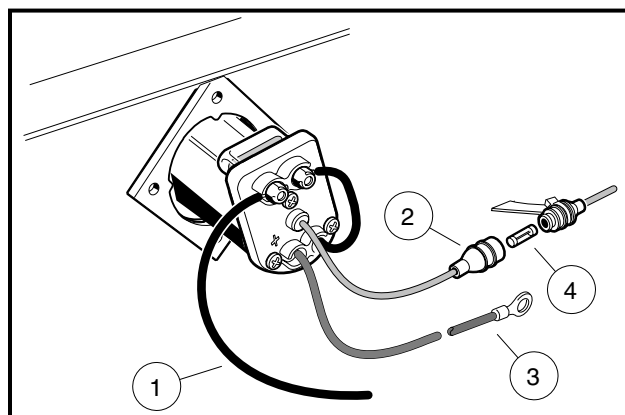

Figure 4-5 PowerDrive Charger Receptacle
9. Remove the lock nut that connects the black wire (1) to the charger receptacle (**Figure 4-5, Page 4-6**).
10. Disconnect the yellow fuse holder (2) from the wire harness.
11. Remove the 10-gauge red wire (3) from the large solenoid post.
6. Tighten the nut securing the 10-gauge black wire (1) to the charger receptacle to 23 in-lb (2.6 N·m) **(Figure 4-5, Page 4-6)**.
8. Remove the lock nut that connects the black wire (1) to the charger receptacle (**Figure 4-5, Page 4-6**).
9. Disconnect the yellow fuse holder (2) from the wire harness.
10. Remove the 10-gauge red wire (3) from the positive post of battery no. 1.